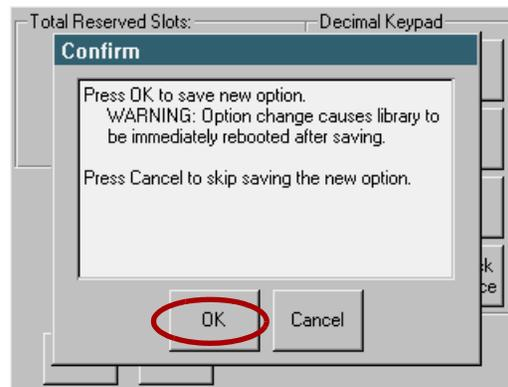

Figure 3-10: Total Reserved Slots Confirmation Screen
4. At the confirmation screen (Figure 3-10), press **OK**.